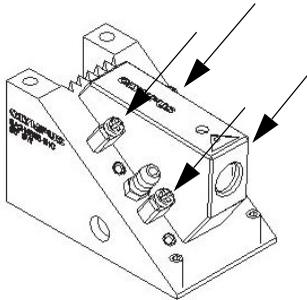

Figure 4-6 The probe holder
8. Using a cross-head screwdriver, loosen the four screws (see Figure 4-6 on page 34), and then remove the probe from the wedge.